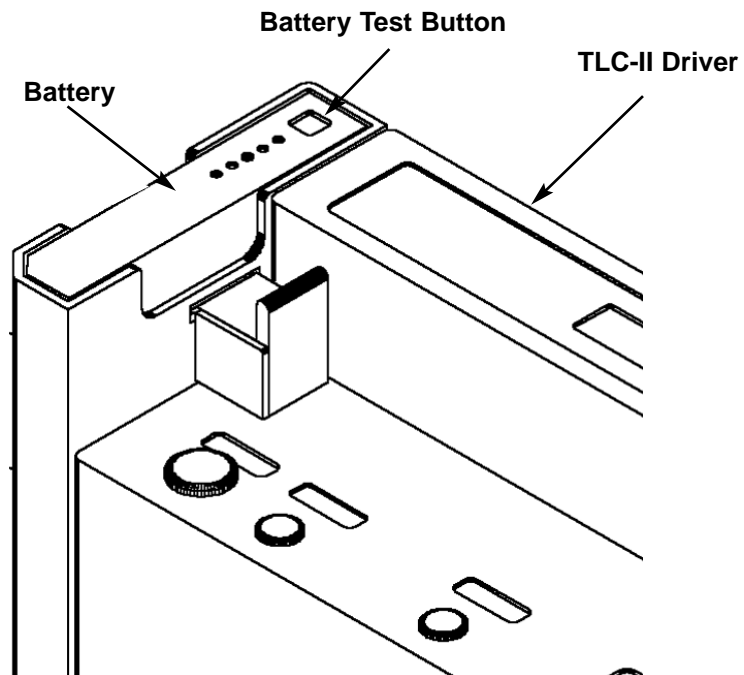

Figure 4.3 TLC-II Driver, Battery, and Battery Test Button
- 4.2.6 Press the battery test button and note the status. With a fully charged battery all 5 green lights turn on (**Figure 4.3**).
- 4.3.3 Press the battery test button and note the status. With a fully charged battery all 5 green lights are turned on (**Figure 4.3**).